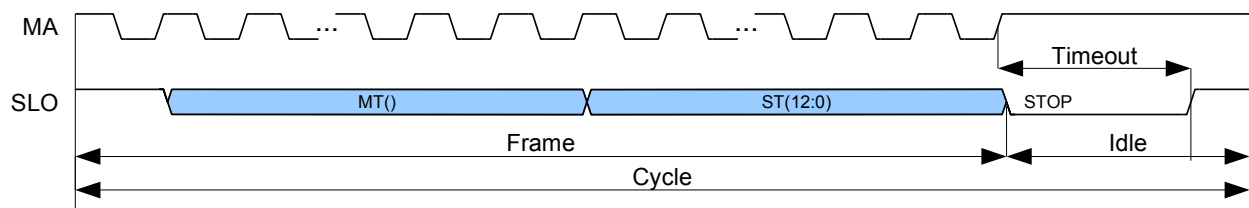

Figure 30: Standard SSI protocol
According to Table 52, the standard SSI protocol format includes the multiturn (MT) and singleturn (ST) position. The ST data length has to be set to exactly 13 bit via BISS_ST_DL. The MT data length has to be set to either 0 or 12 bit via BISS_MT_DL. A transmission using the standard SSI protocol is shown in Figure 30.